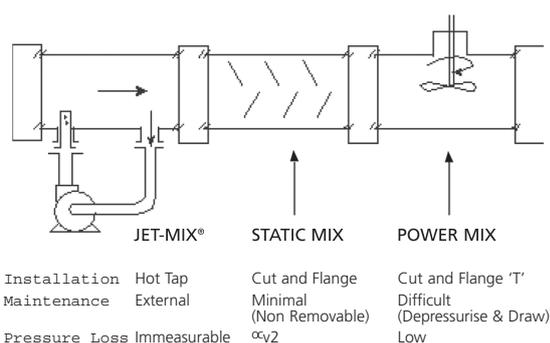

Figure 1. Comparison of mixing systems
If the pipeline velocity is adequate the homogeneity of the cross section is assured by natural turbulence; these considerations are discussed in another paper (see ref. 1). Where natural turbulence is insufficient, the distribution may be improved by using in-line static mixers, motor driven shear mixers (similar to tank mixers) or alternatively jet mixers. Fig 1 details the comparative limitations of these solutions.